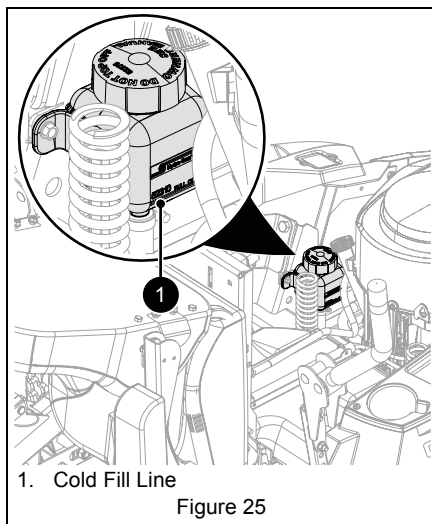

Figure 25
2. Check oil level in expansion tanks. Oil should reach the cold fill indicator mark. See Figure 25.
- b. Fill expansion tanks with 15W-50 synthetic motor oil until oil reaches the cold fill indicator mark. See Figure 25.